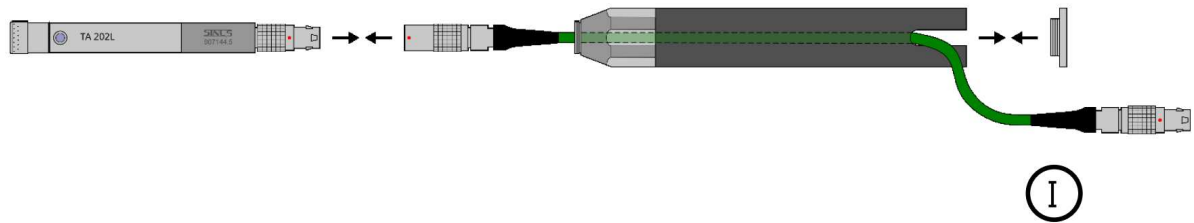

Figure 3.7: Mounting the cable
Pass the **Tango_Plus microphone cable (I)** through the shaft, so that the socket end can be connected to the composite microphone unit on the pre-amplifier. At the end of the shaft, guide the cable through the recess before screwing the **socket (H)** back in (figure 3.7).